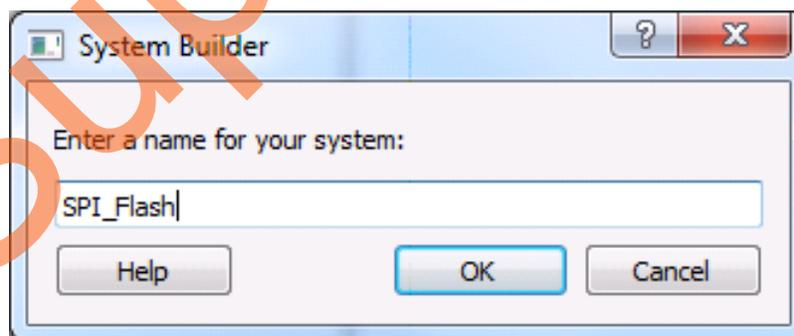

Figure 7 • System Builder Window
- Enter the name of the system as **SPI_Flash** and click **OK**, as shown in Figure 7.